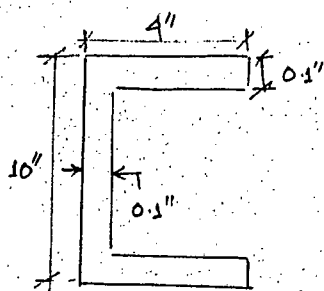

Figure 1
2. Find the approximate location of the shear center for a beam with the cross section shown in Figure 1. (14)